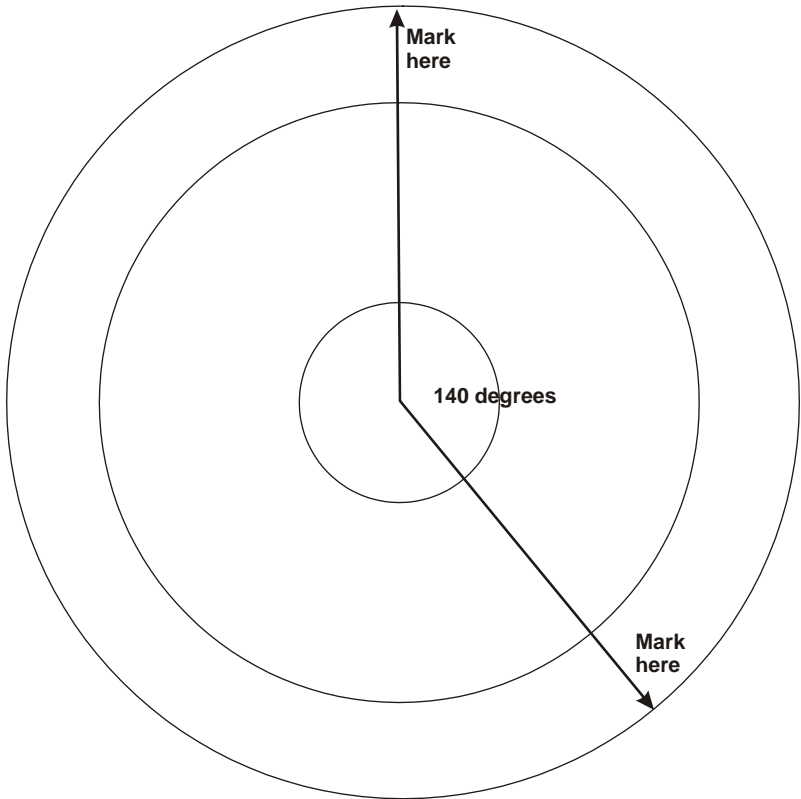

Figure 1.4
- Place the degree marking gauge (Figure 1.4) on the VR pulley and mark the pulley (using a marker pen) at both points to indicate an angle of 140 degrees.